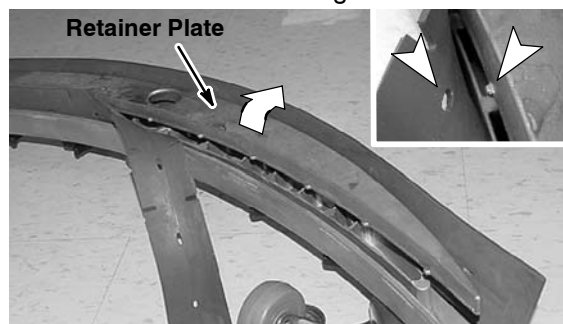

FIG. 52
- To replace the front blade, remove the rear band and fully loosen the four squeegee assembly knobs, do not remove the knobs. Lift and tilt the retainer plate to access the front blade (Figure 52). Rotate the front blade to a new wiping edge and return the retainer plate. Make sure the retainer plate tabs engage the blade slots. Reinstall the band then retighten the knobs.